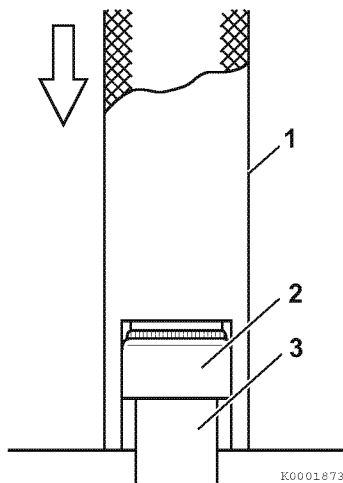

Figure 6-18
1. Oil the lip of the valve stem seal (2, **Figure 6-18**). Using a valve stem seal installation tool (1, **Figure 6-18**), install a new valve stem seal on each of the valve guides (3, **Figure 6-18**).